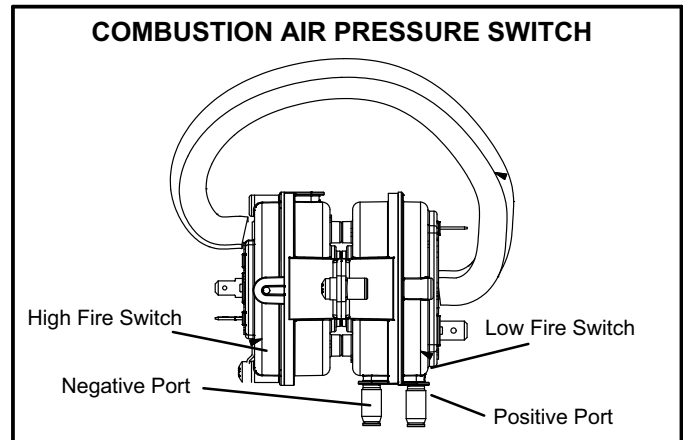

FIGURE 14
ML296UHV(X) series units are equipped with a dual combustion air pressure switch (first and second stage) located on the combustion air inducer orifice bracket. See figure 14. The switch is connected to the combustion air inducer housing by means of a flexible silicone hose. It monitors negative air pressure in the combustion air inducer housing.